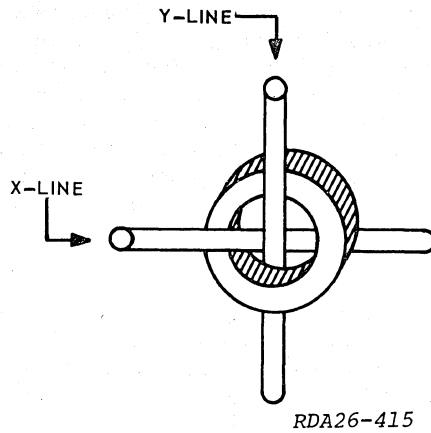
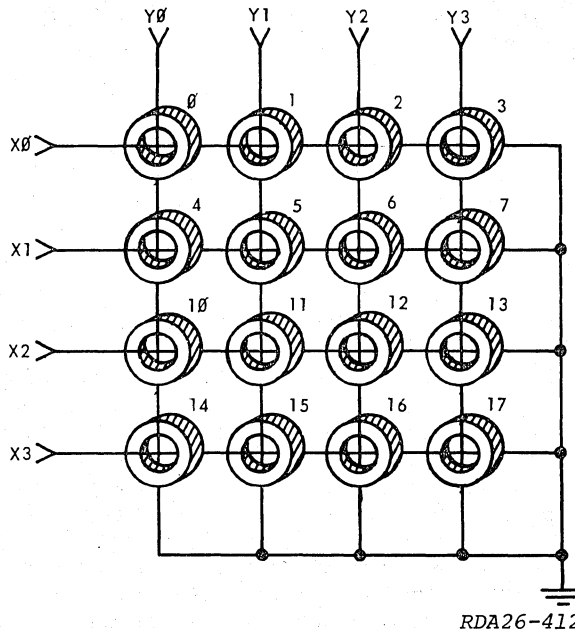

Figure 1-7. Core Address Lines
Figure 1-8. Ferrite Core Plane
Most of the ferrite cores used to store computer data do not have a single wire applying magnetizing force to the cores. Instead they use two wires, each carrying a half-select drive current. For convenience, these address selection lines are usually called the X (horizontal) and Y (vertical) address lines. Figure 1-7 shows a single core threaded by X and Y address selection lines. Of course, each X line and each Y line passes through several other cores. Figure 1-8 shows a typical ferrite core plane with its X and Y selection lines.
The ferrite core plane in figure 1-8 contains 16 cores number 0 through 17 (octal). Each core is threaded by two address selection drive lines; each wire will carry a half-select current. Only the core that receives a magnetizing force from two wires (coincident X and Y currents) will be selected. Each core has its own unique pair of X and Y lines that will make it become a selected core. It is standard practice to label cores by their X-Y address. For example, core 11(8) would be identified as address X2Y1; core 11(8) has a location of X2Y1.